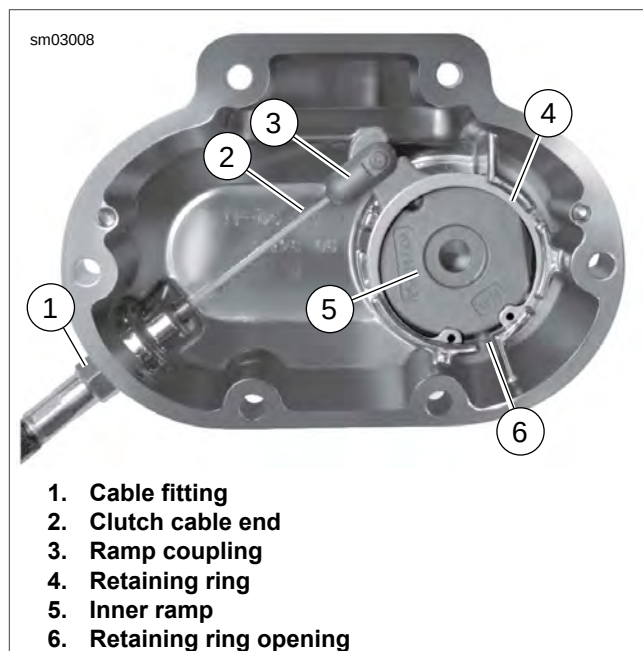

Figure 6-5. Clutch Cable Connection
6. See Figure 6-5. Remove retaining ring (4). Lift inner ramp (5) and ramp coupling (3) out of clutch release cover. Disconnect clutch cable end (2) from the ball and ramp coupling.
1. See Figure 6-5. Apply a drop of LOCTITE 243 MEDIUM STRENGTH THREADLOCKER AND SEALANT (blue) to clutch cable fitting (1) and screw fitting into clutch release cover. Do not tighten at this time.
See Figure 6-5. Center retaining ring opening above the break in the ribbing at bottom of the clutch release cover.